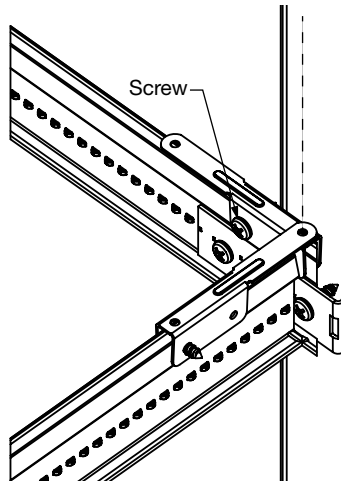

Fig 40
- Once the position has been verified, clamp the PAC to the cut XM Cross Tee and attach with one screw through the side of the clip and into the bulb (**Fig 40**).